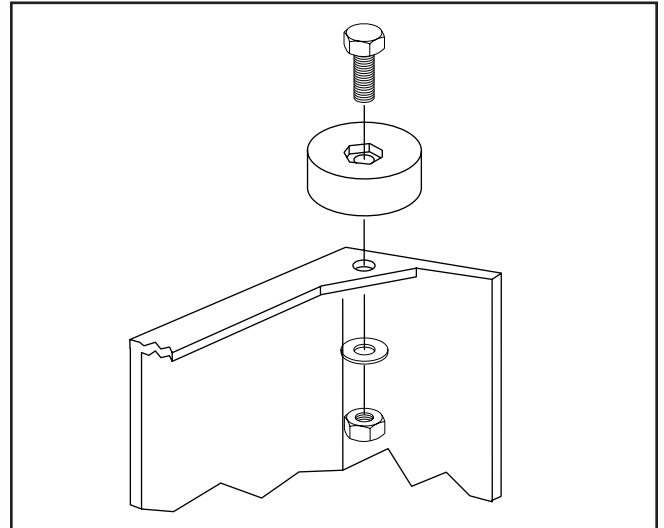

Figure 3. Attach rubber feet first.
1. Start with the stand panel with the switch mounted in it. Turn the panel upside down and attach the rubber feet using (2) $\frac{1}{4}$ "-20 x 1" Phillips® head screws, (2) flat washers and (2) hex nuts provided. Tighten down. **See Figure 3.** Repeat this step with the second stand panel.